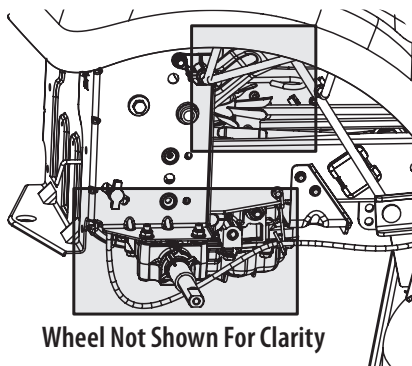

Figure 33
- Clean around and near the transmission, axle and the fan area. See Figure 33.